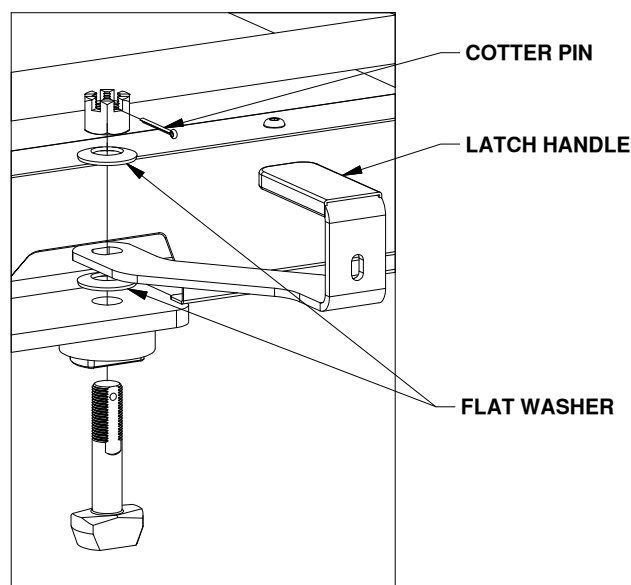

Figure B3: List of latch parts.
- Adjust the tension in the latch handle,** for parts list and visual guide refer to Figures B3 and B4.